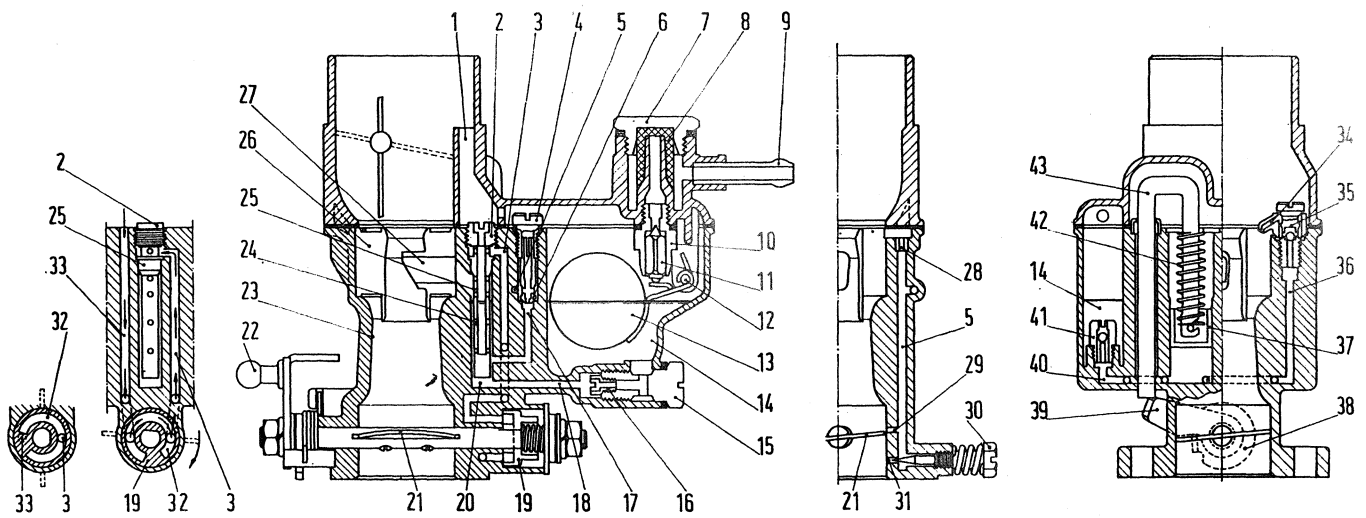

Fig. 537 - Weber 28 ICP carburetor - Schematic diagram.
Referring to diagram fig. 537, the air from above flows through Venturi (26) in air horn where it mixes with the fuel issuing from spray nozzle (27) and, via the restriction in primary Venturi (23), is then conveyed to the cylinders through the opening adjusted by throttle (21).